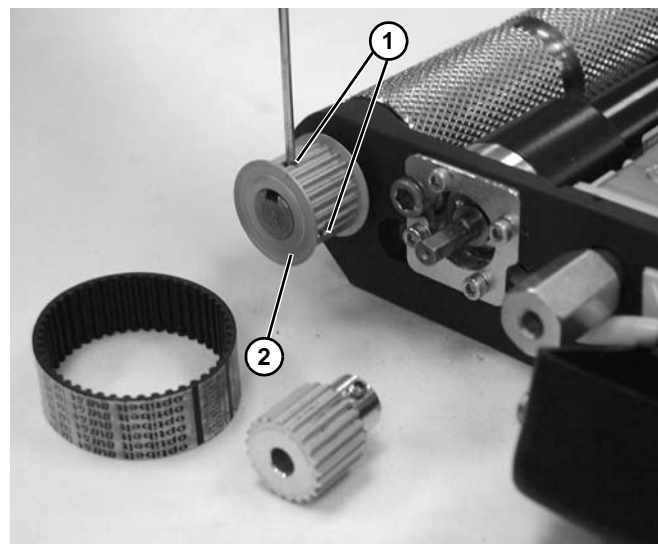

Figure 53
- Loosen two set screws (Figure 53, item 1) on driven pulley (Figure 53, item 2), and slide off of shaft to remove.
- Remove driven pulley (Figure 53, item 2).